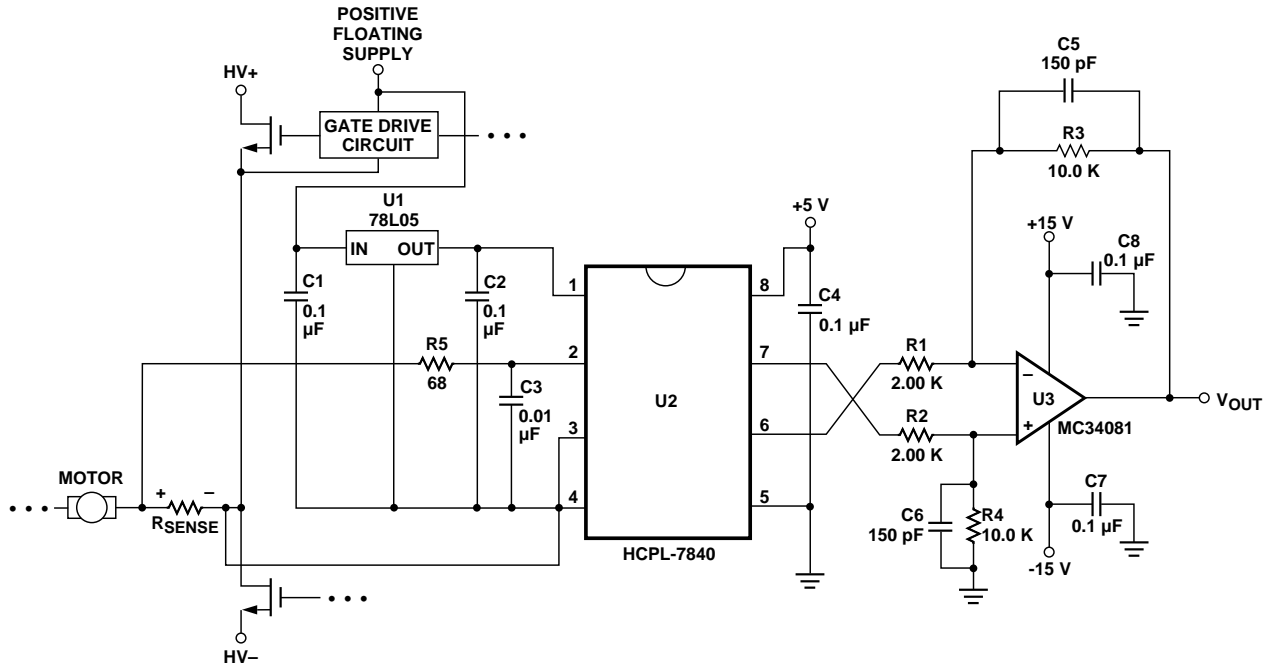

Figure 23. Recommended Application Circuit.
8. CMR (also known as IMR or Isolation Mode Rejection) specifies the minimum rate of rise of a common mode noise signal applied across the isolation boundary at which small output perturbations begin to appear. These output perturbations can occur with both the rising and falling edges of the common mode waveform and may be of either polarity. A CMR failure is defined as a perturbation exceeding 200 mV at the output of the recommended application circuit (Figure 23). See applications section for more information on CMR.
The recommended application circuit is shown in Figure 23. A floating power supply (which in many applications could be the same supply that is used to drive the high-side power transistor) is regulated to 5 V using a simple three-terminal voltage regulator (U1). The voltage from the current sensing resistor, or shunt ( $R_{sense}$ ), is applied to the input of the HCPL-7840 through an RC anti-aliasing filter ( $R_5$ ,  $C_3$ ). And
As shown in Figure 23, 0.1  $\mu\text{F}$  bypass capacitors ( $C_2$ ,  $C_4$ ) should be located as close as possible to the input and output power supply pins of the HCPL-7840. The bypass capacitors are
The recommended method for connecting the isolation amplifier to the shunt resistor is shown in Figure 23. Pin 2 ( $V_{IN+}$ ) is connected to the positive terminal of the shunt resistor, while pin 3 ( $V_{IN-}$ ) is shorted to pin 4 (GND1), with the power-supply return path functioning as the sense line to the negative terminal of the current shunt. This allows a single pair of wires or PC board traces to connect the isolation amplifier circuit to the shunt resistor. In some applications, however, supply currents flowing through the power-supply return path may cause offset or noise problems. In this case, better performance may be obtained by connecting pin 3 to the negative terminal of the shunt resistor separate from the power supply return path. When connected this way, both input pins should be bypassed. Whether two or three wires are used, it is recommended that twisted-pair wire or very close PC board traces be used to connect the current shunt to the isolation amplifier circuit to minimize electromagnetic interference to the sense signal.
The recommended application circuit (Figure 23) includes a post-amplifier circuit that serves three functions: to reference the output signal to the desired level (usually ground), to amplify the signal to appropriate levels, and
To maintain overall circuit bandwidth, the post-amplifier circuit should have a bandwidth at least twice the minimum bandwidth of the isolation amplifier, or about 200 kHz. To obtain a bandwidth of 200 kHz with a gain of 5, the op-amp should have a gain-bandwidth greater than 1 MHz. The post-amplifier circuit includes a pair of capacitors (C5 and C6) that form a single-pole low-pass filter. These capacitors allow the bandwidth of the post-amp to be adjusted independently of the gain and are useful for reducing the output noise from the isolation amplifier (doubling the capacitor values halves the circuit bandwidth). The component values shown in Figure 23 form a differential amplifier with a gain of 5 and a cutoff frequency of approximately 100 kHz and were chosen as a compromise